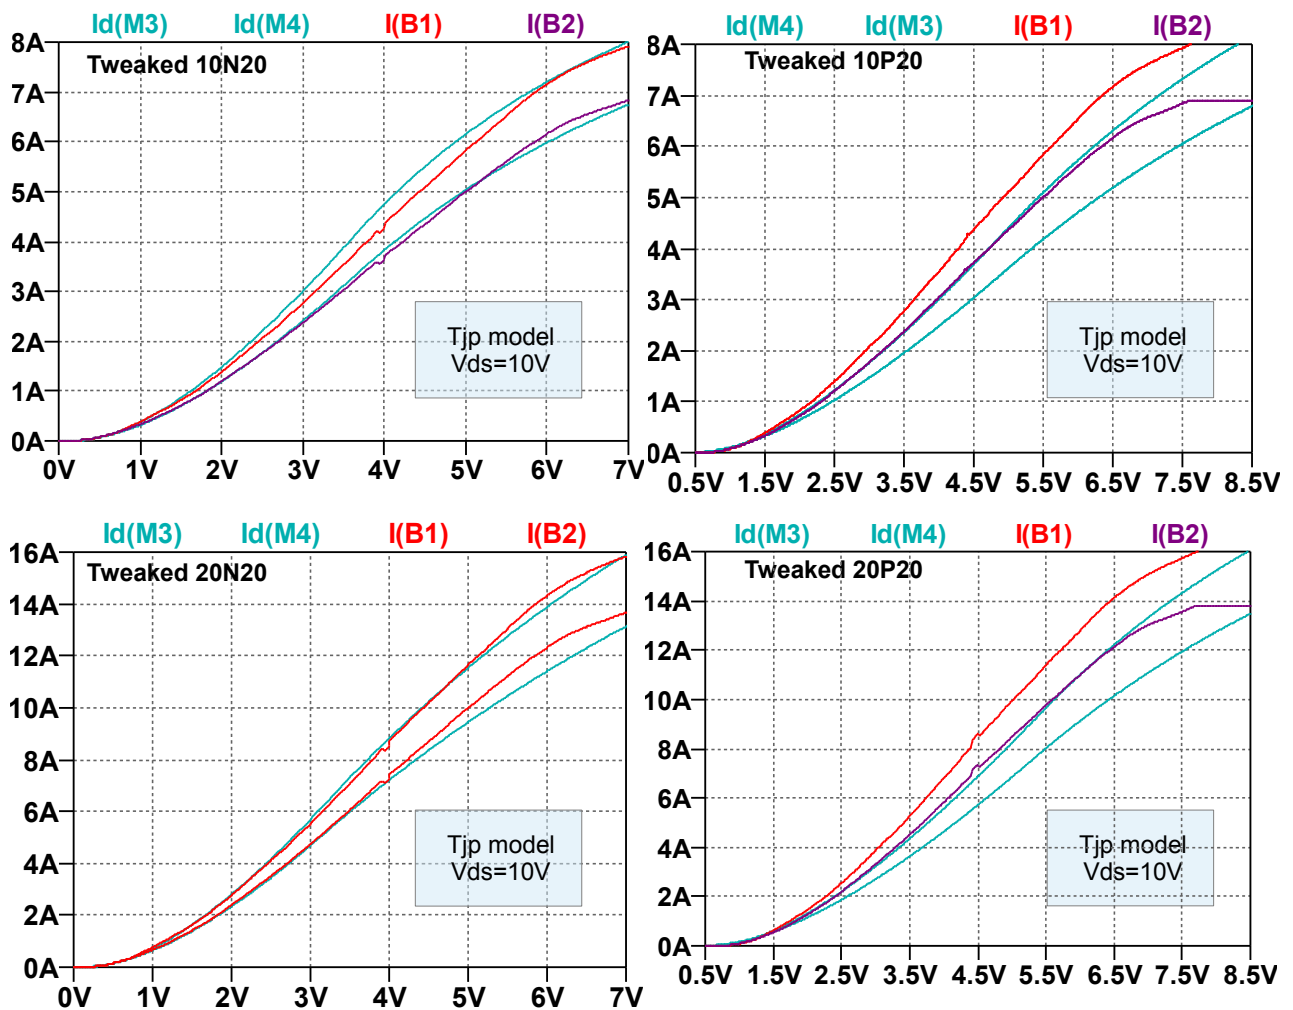

Figure 10.  $I_d$  using parameters in Table 2 (Cyan) and datasheet  $I_d$  (Red 25°C, Purple 75°C).
**Figure 10** shows the 20N20 model without the 0.25R sensing resistor and Vds=10V – to give same test conditions as the datasheets.